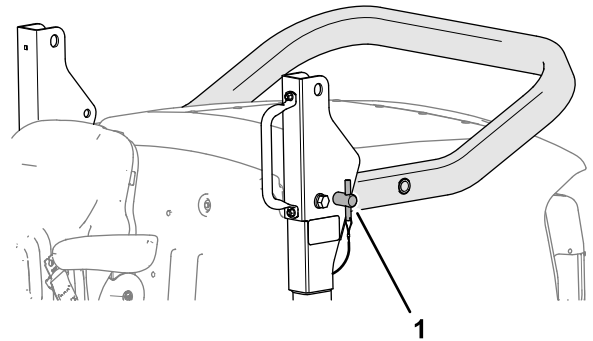

Figure 22
2. Remove the roll-bar pins to the pivot brackets (Figure 22).